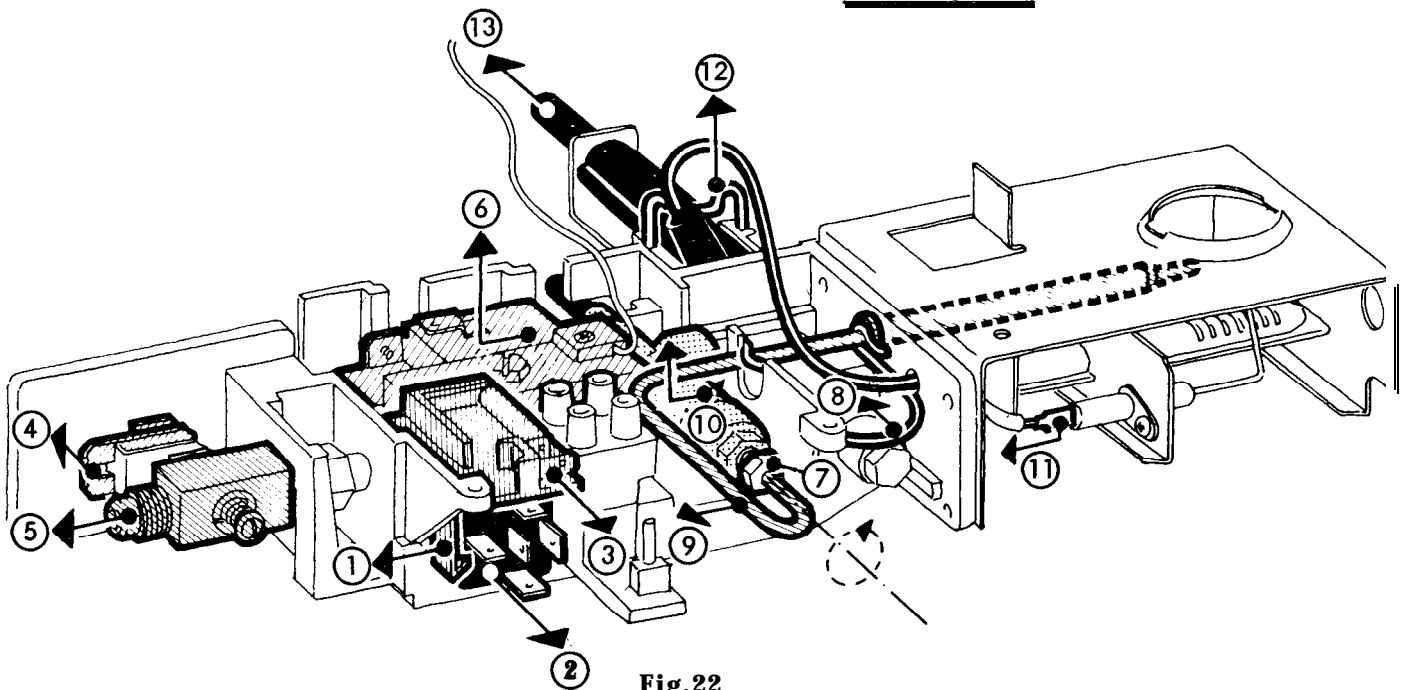

Fig. 22
1. Press the plastic latch (leftwards in Fig. 22).